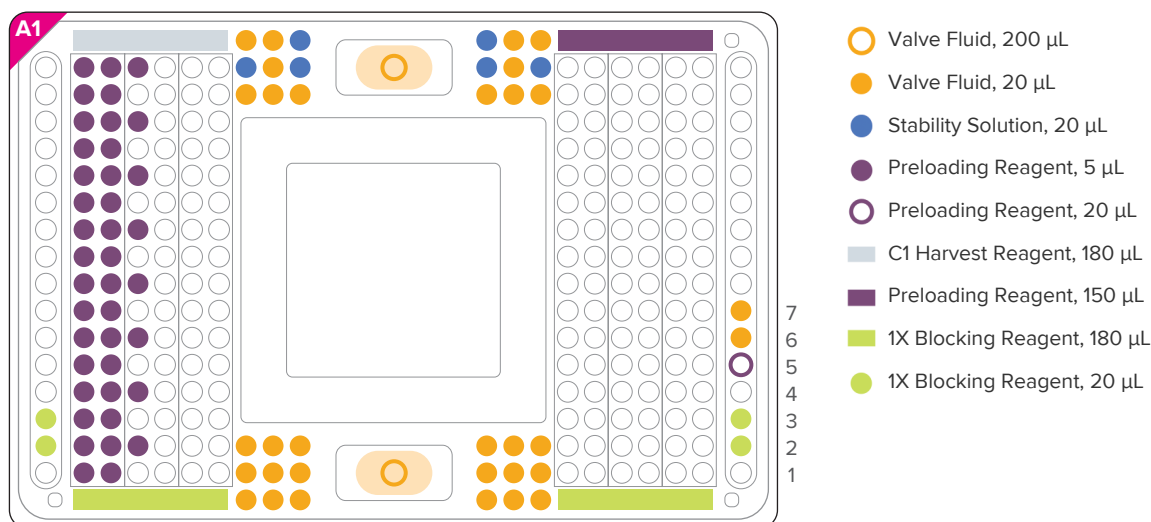

Figure 3. HT IFC priming pipetting map
- 1 Pipet 200 µL of Valve Fluid into each of the accumulators marked with gold outlined circles (○, see Figure 3). The middle of the bottom surface should be immersed (●).